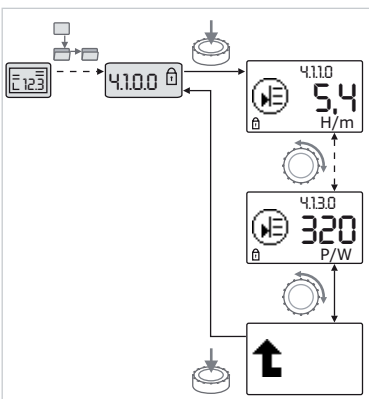

Fig. 39: Calling up information
- Turn the red button to access the "Information" menu elements in the current sub-menu (see Fig. 39). For an explanation of the settings represented by the symbols, see the table in chapter 8.7 "Menu elements reference" on page 89.